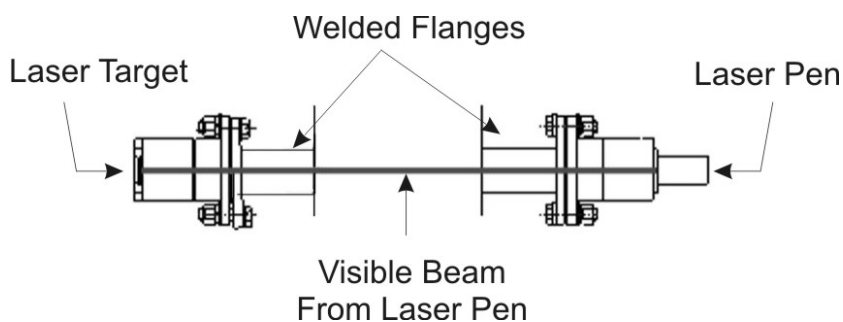

Figure 3.4 Adjusting the Instrument Flanges with Laser Pen and Target.
The trace of light spot on the target forms a circle. If the diameter is less than $1/600$ of the distance between the laser pen and the scaled target, then the coaxial degree of the pen is adequate. Otherwise, please contact our technical support center. See Figure 3.4.
- a. Tighten the laser pen on one of the instrument flanges with a mounting nut. Install the scaled target on the other instrument flange. Turn on the laser pen and check whether the light spot is on the center of the scaled target. If not, adjust (tighten or loosen) the 4 M16 bolts on the instrument flange where the laser pen is mounted until the light spot is at the center of the target. See Figure 3.4.